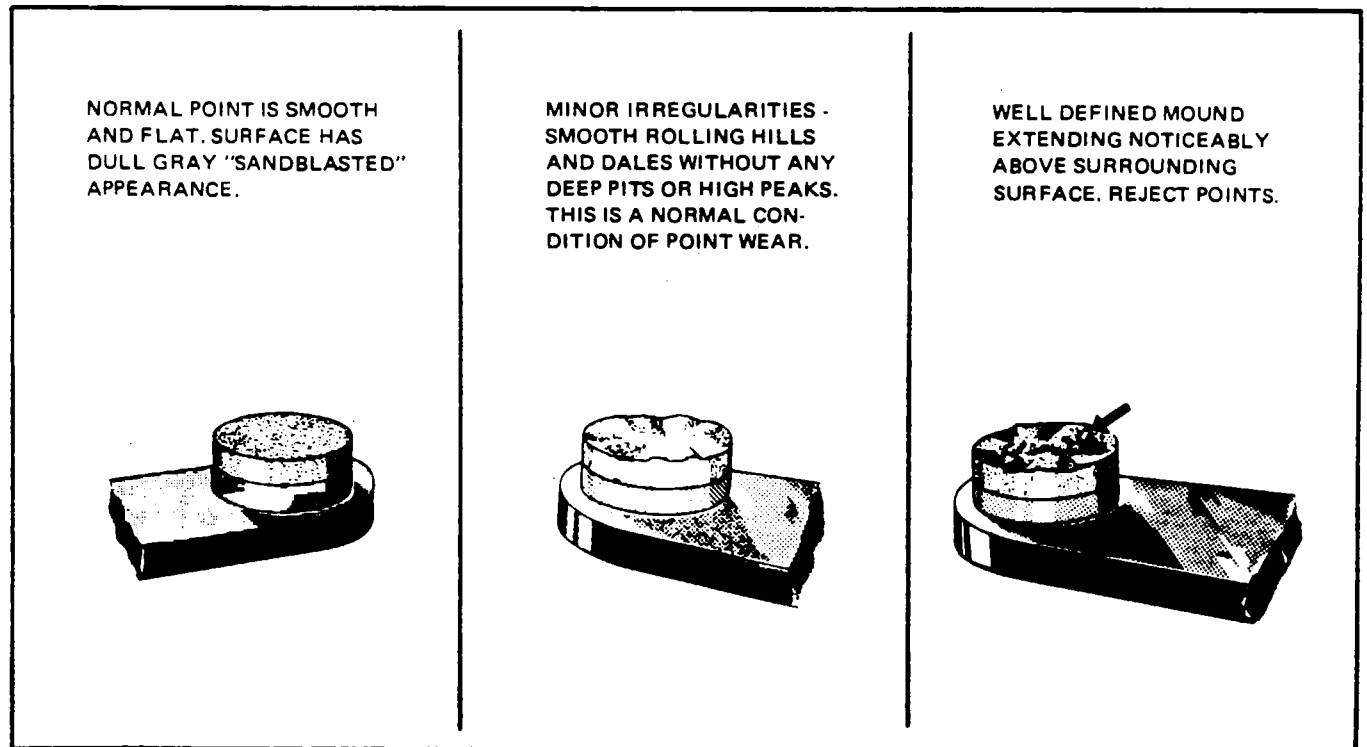

Figure 8-13. Contact Points
- f. Examine the contact points for excessive wear or burning. Figure 8-13 shows how the average contact point will look when surfaces are separated for inspection.
Desired contact surfaces have a dull gray, sand-blasted (almost rough) or frosted appearance, over the area where electrical contact is made. This means that points are worn in and mated to each other, thereby providing the best possible electrical contact and highest efficiency of performance. Minor irregularities or roughness of point surfaces are not harmful. (Refer to Figure 8-13, center.) Neither are small pits or mounds, if not too pronounced. If there is a possibility of pit becoming deep enough to penetrate pad. (Refer to Figure 8-13, right), reject contact assembly.